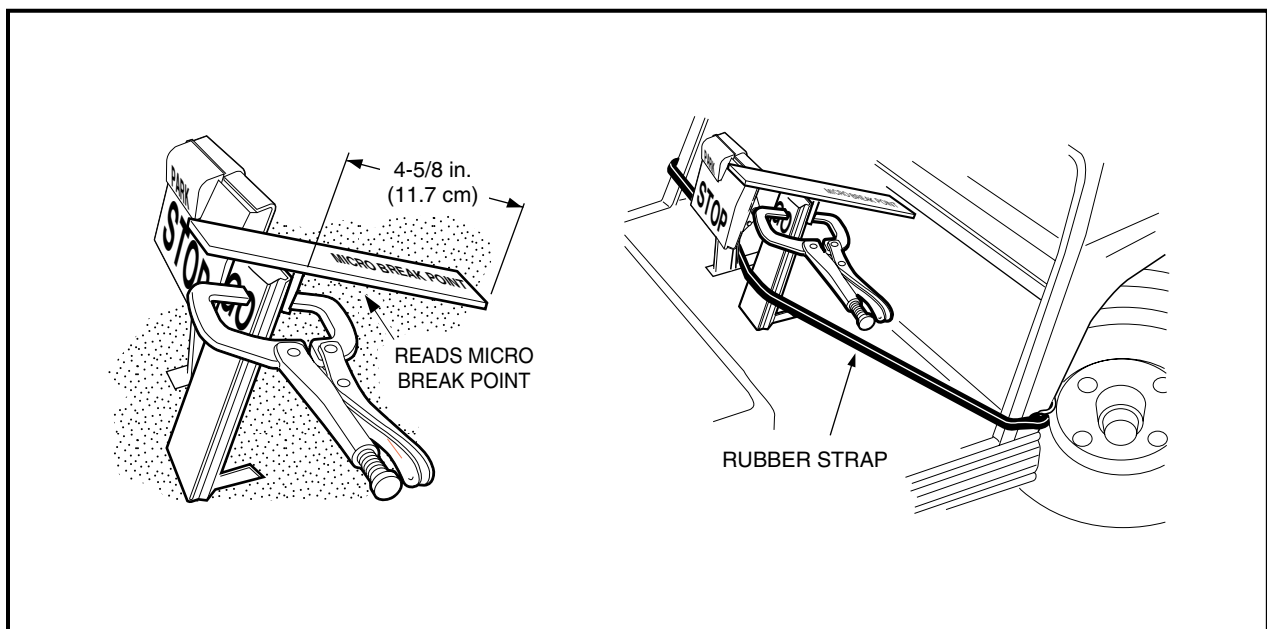

Figure 5-24 Micro Break Point Adjustment
- 5.5. Reposition and clamp the accelerator pedal adjustment tool on the accelerator pedal with the end marked *micro break point* toward the floorboard, then depress the pedal until the end of the tool rests against the floorboard (pedal height should be 4-5/8 inches) (11.7 cm). Use a rubber strap to hold the pedal in depressed position and proceed to step 5.6. (**Figure 5-24, Page 5-25**).